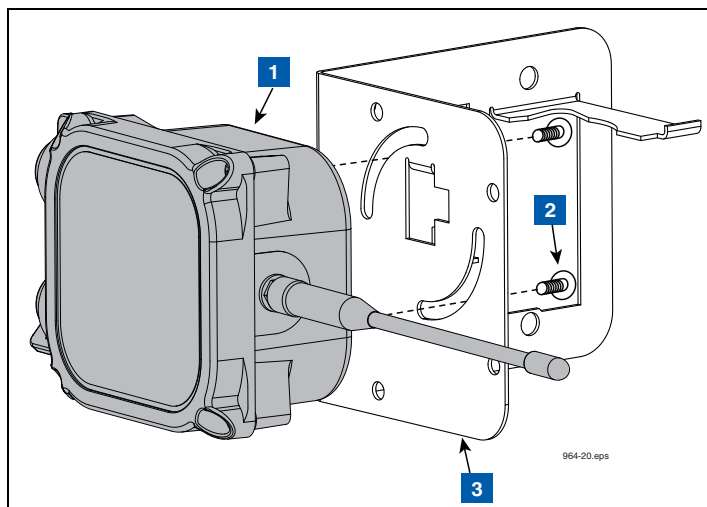

Figure 13. Attaching Transmitter To Battery Support Bracket
3. Using two taptite screws from the kit, attach the Transmitter housing to the side of the battery support bracket that has the two circular slots (see Figure 13). Do not tighten screws at this time.
LEGEND FOR NUMBERED BOXES IN Figure 13